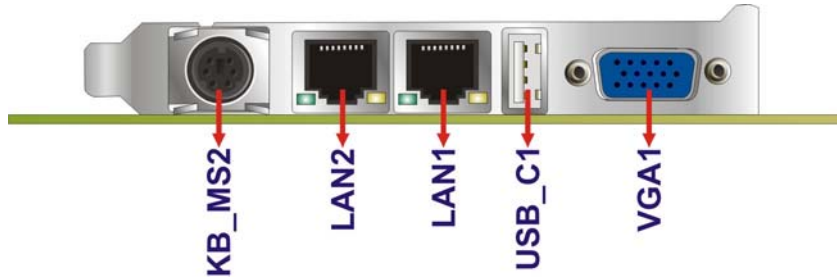

Figure 3-25: External Peripheral Interface Connector
- CN Location:** See **Figure 3-25**